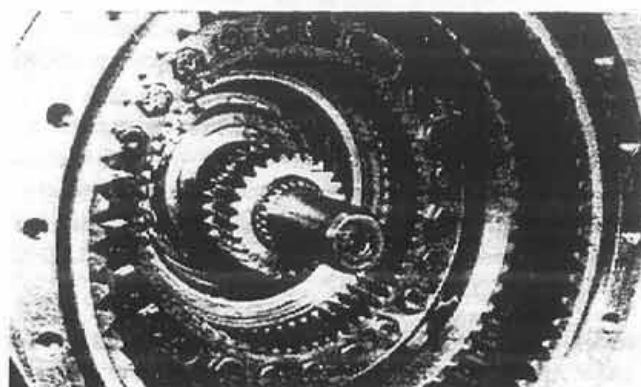

Figure 6:
Step 5. Remove axle shaft and sun gear. The axle will slide out of the center section freely. There is no fastener on the axle in the center section (see Fig. 6).